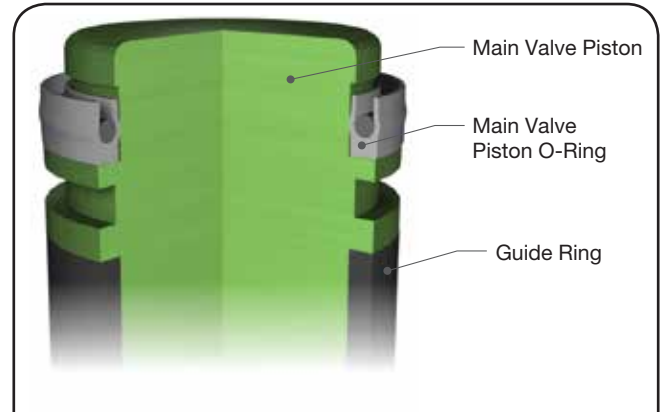

Figure 29: Main Valve Piston
10. For Teflon seals make sure of the integrity of the Teflon seal and seal spring. Install Disc Seal on Disc outside diameter on the opposite end of the disc seat as shown in Figure 29.